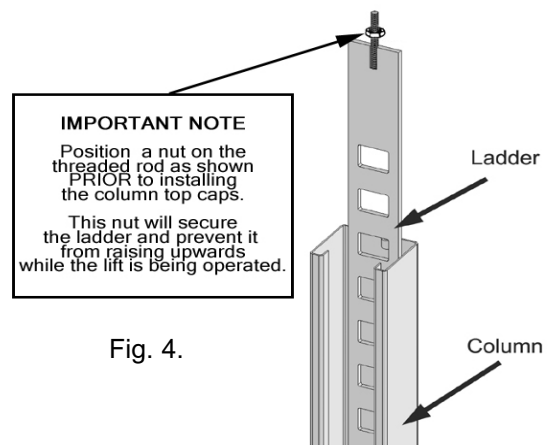

Fig. 4.
3. Remove any pre-installed CABLE SHEAVES from the POWERSIDE RUNWAY making sure to pay attention to the order in which they are removed. (This will help at the time of re-installation.) First remove the retaining bolt then press the sheave axle through the runway completely until the sheaves and spacers are removed. (See Fig. 4.)